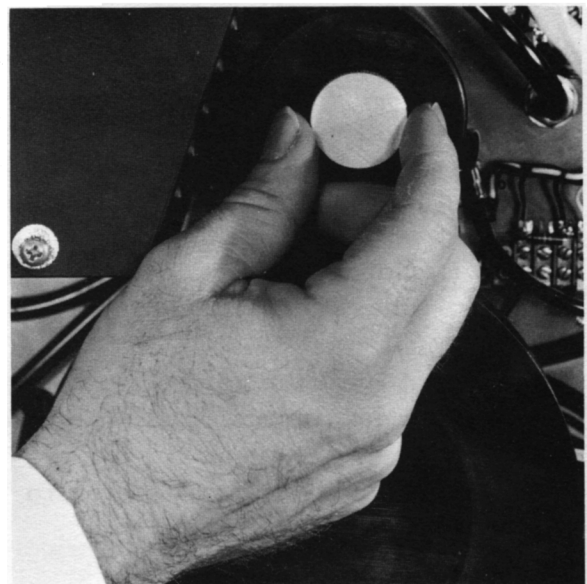

Figure 4-2
- Step 14: Manipulate the adjustment screw on the transducer mounted on the lower servo control assembly (Figure 4-2) for a zero indication of the voltmeter.